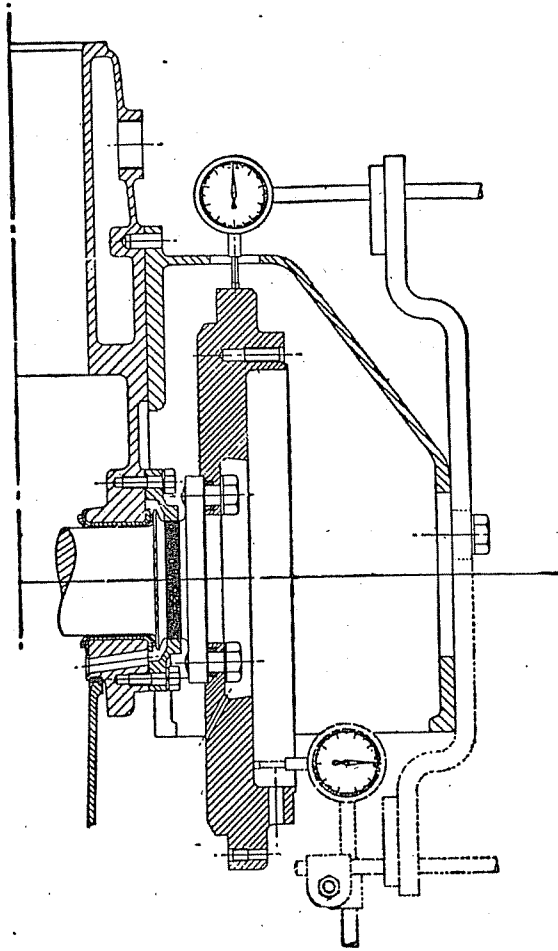

Fig. 31.
- (1) With the flywheel and crankshaft flange perfectly clean and free from burrs, place the flywheel on the crankshaft flange ensuring that the two thimbles in the flange fit into the two recesses machined in the flywheel holes.
- (2) Insert the eight set screws complete with flat washers into the flywheel holes and tighten evenly.
- (3) Secure the base of the "clock" gauge to the clutch housing. With the flywheel at top centre, set the needle of the gauge on the periphery at T.D.C. (See Figure 31).
- (4) Turn the crankshaft and check the "clock", the flywheel should run truly within the limits of plus or minus .0025 inch.
- (5) With the base of the "clock" gauge still bolted to the clutch housing, adjust the "clock" so as to set the needle against the vertical machined face of the flywheel.
- (6) Again turn the crankshaft and check the "clock", the flywheel should be within the limits of plus or minus .0025 inch at right angles to the crankshaft axis.
- (7) When the flywheel has been checked for the correct limits, lock wire in pairs the eight set screws.
- (8) Finally grease the spigot ball race.